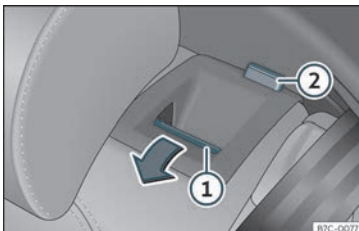

Fig. 107 Rear seat: folding the backrest.
- Pull the unlock button»» **Fig. 107** (1) forward and lift the backrest at the same time. The rear seat backrest is not engaged when the red marking of the button (2) is visible.